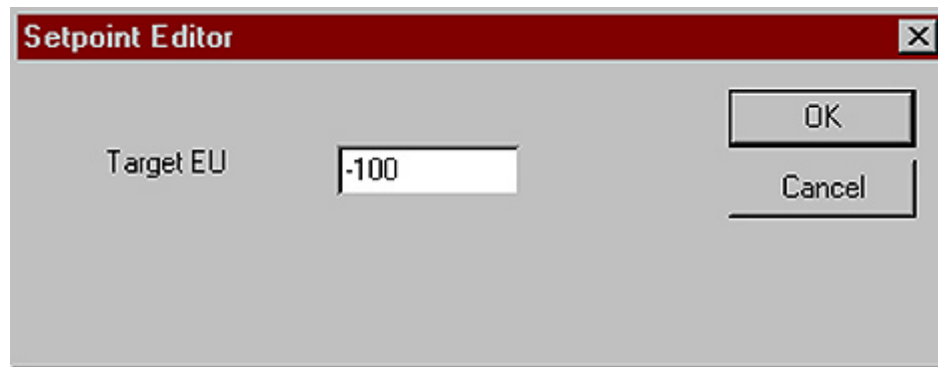

Figure 6
- 113 If the Target EU 0.000000 is not listed on the Signal Display screen, click on “New Point” button. The “Setpoint Editor” window for Target EU will appear. See Figure 6.